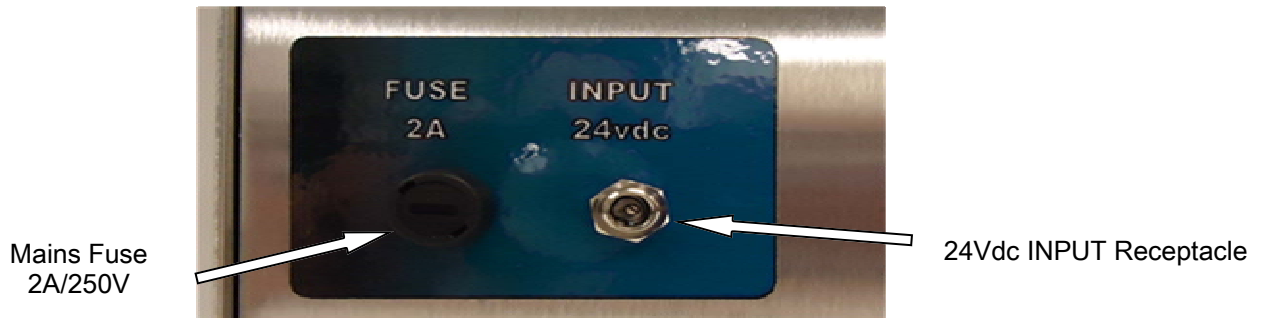

Figure 1 - Rear of Unit
1. Connect the detachable power cord to the AC/DC converter (DC power supply) and connect to “INPUT 24Vdc” receptacle in rear of unit and then plug power cord into a suitable electrical outlet. (See Figure 1)